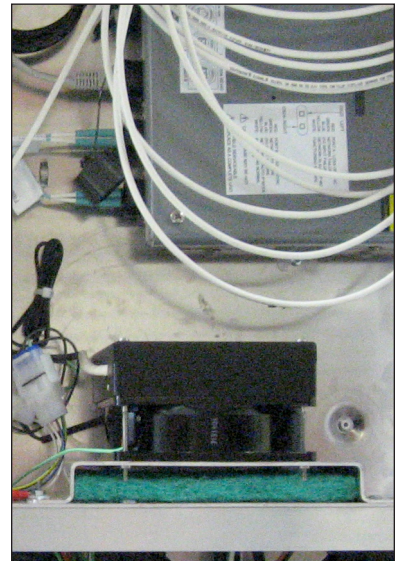

Figure 32: ISP Enclosure Filter Location
2. Remove the existing filter. Refer to **Figure 32**.